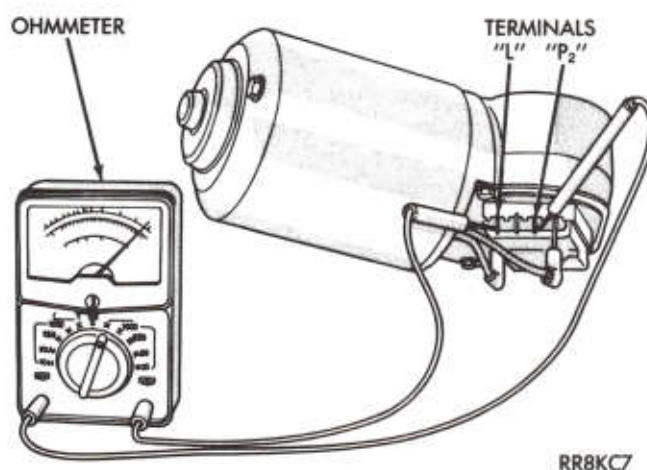

Fig. 5—Ohmmeter Between Terminal "L" and "P₂"
(3) Connect an ohmmeter or continuity tester between terminals "L" and "P₂" (Fig. 5).